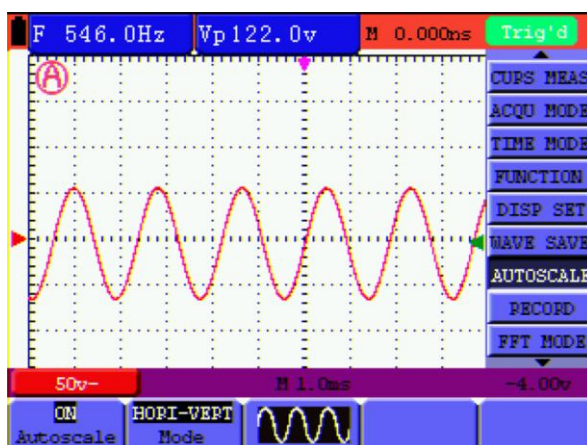

Figure 50: Autoscale Horizontal- Vertical multi-period waveforms
Now, you can see a screen that looks like the following figure 50.
- 5.) Press F3 and choose  displays on the screen as figure 50: